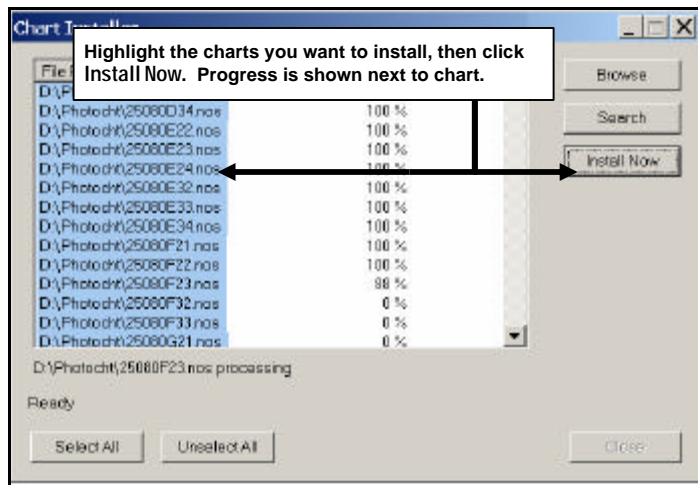

Figure 4-4. Chart Installer Screen 2
5. If you know where the charts you want to load are, click **Browse** and locate/select the appropriate directory. If you want Navigator to search all available drives for charts, click **Search**. After a few moments, Navigator displays all charts available for installation (Figure 4-4).